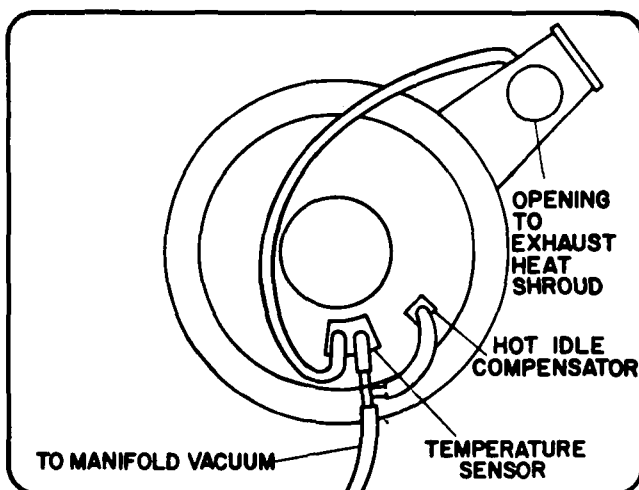

Figure 5-22
3. Explain the purpose of the hot idle compensator shown in Fig. 5-22.